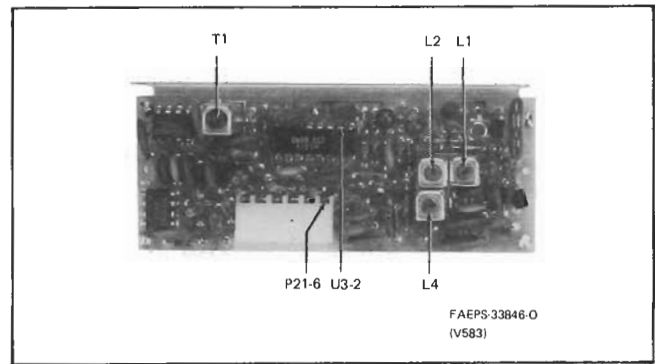

Figure 6. Noise Blanker Board Adjustments
Step 2. Adjust L1, L2, L4 and T1 (see Figure 6) until each core is flush with the top of the coil form.
Step 2. Monitor P21-6 with an oscilloscope. Adjust L1, L2, and L4 (see Figure 6) clockwise for a peak signal on the oscilloscope.
Step 4. Monitor U3-2 with a digital voltmeter and adjust T1 (see Figure 6) clockwise for a peak dc voltage reading.